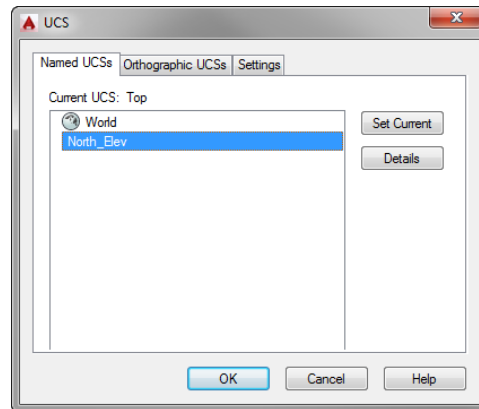

FIGURE 10.45: The UCS dialog box
14. From the UCS dialog box, click the Named UCSs tab, and then click the current UCS name (currently named Unnamed) once to highlight the text. Then select **North_Elev** (see Figure 10.45).